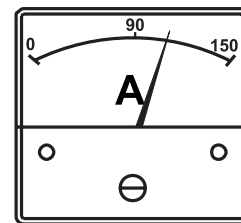

Figure 55. Ammeter (Load)
13. Observe the generator's ammeter (Figure 55) and verify it displays the anticipated amount of current with respect to the load. The ammeter will only display a current reading if a load is in use.